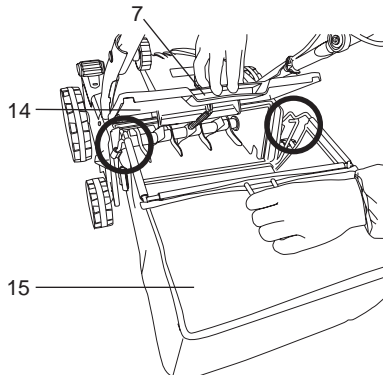

Fig. 16
2. Open the deflector guard (14) by grasping the grip (7), hold it in position and align the hooks on the grass catcher (15) with the supports to hang it onto (Fig. 16).